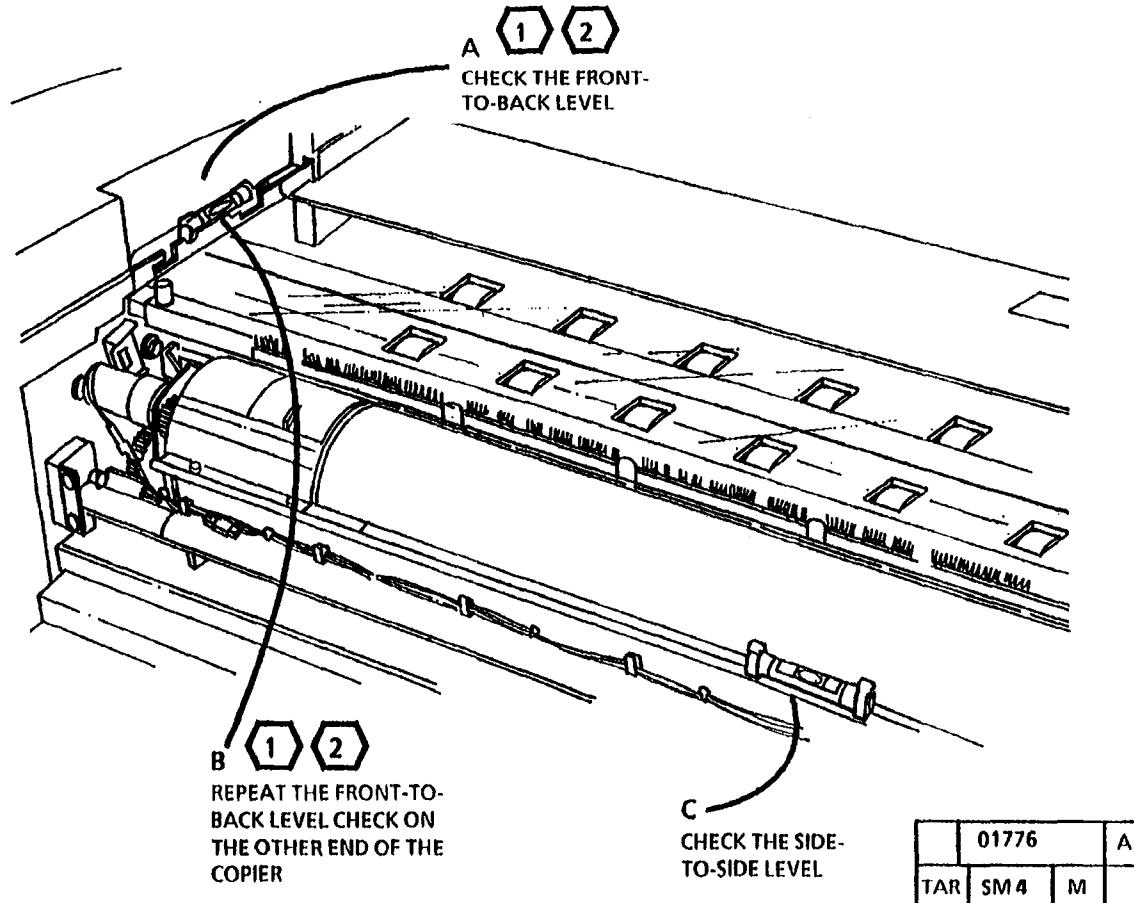

Figure 2. Check the level of the copier
3. (Figure 2): Check the level of the copier.